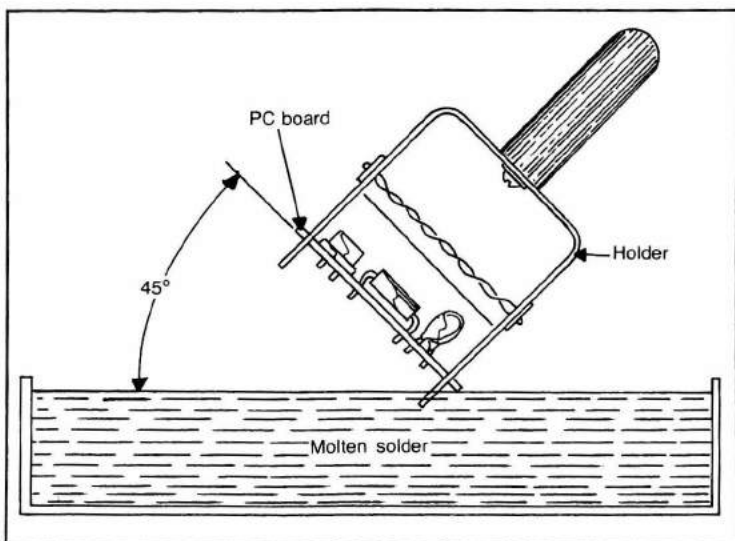

Fig. 3-34. Dip-soldering a board should begin by holding the board at a 45° angle as it is slowly lowered and tilted to the surface of the solder.
3. Lower the PC board onto the molten solder so that it contacts at about a 45° angle. See Fig. 3-34.